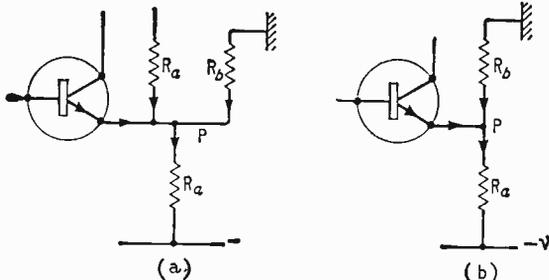

Fig. 2 (a). Transistor will cut off with small positive signal at P. (b). If  $V_F \approx \frac{V}{2}$  then  $R_a \leq R_b$  for transistor to conduct.
**Output Stage:**—Several disadvantages exist when only one output transistor is used for bipolar operation. Thus, without transistor T9, transistor T8 will cut off with negative signals (see Fig. 2(a)).
This difficulty can be overcome by removing  $R_{21}$  and  $R_{22}$ , although an alternative source of bootstrap voltage will now have to be found. With maximum negative excursion (approximately half available power supply voltage), the current in  $R_{23}$  must be higher than that in  $R_{25}$  in order that transistor T8 may still conduct (Fig. 2(b)). Thus the load impedance must always be higher than the sum of  $R_{23}$  and  $R_{24}$ —in this case  $3.6k\Omega$ , or the available output swing must be reduced. Both alternatives are undesirable. For the above reasons a class-B complementary output stage is used. Cross-over distortion is reduced by means of D1, which also provides bias compensation to prevent thermal runaway.